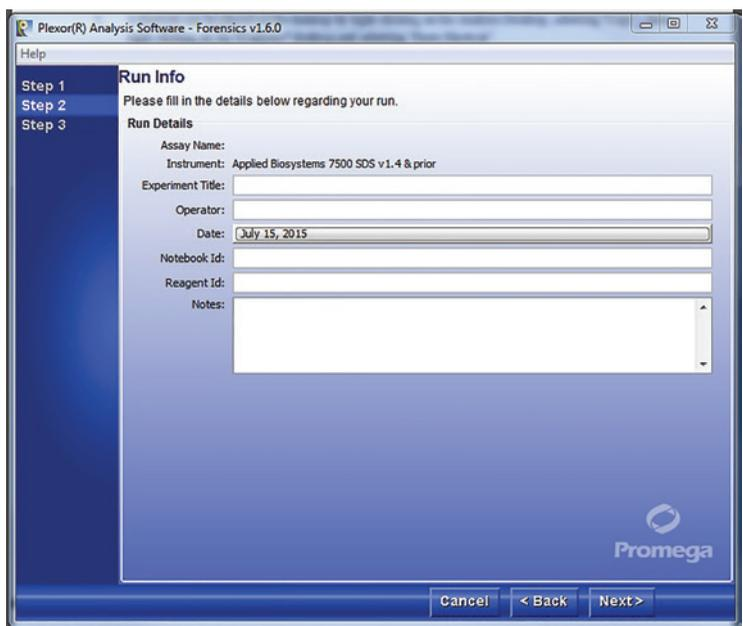

Figure 31. Step 2 – Run Info screen.
9. Enter information specific to your run in the Run Info screen, Step 2 (Figure 31). Details such as the date, notes, title, etc., also can be entered. These fields are optional.